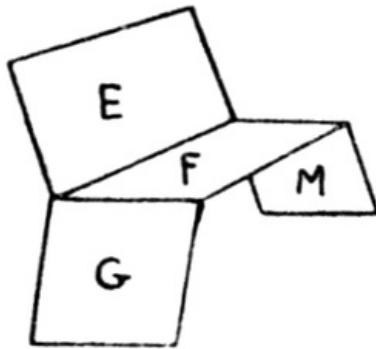

**FIG. 77**
**A Motor-car** (Fig. 77). The car consists of a match-box without the cover. The seats are of white paper. The following them measure and cut a piece of paper, A B C D, that will just cover the box from side to side, making bends *a c* and *b d* where the edges of the box come. Fold paper into four as in Fig. 78. Cut along *e f*, and cut off the shaded portions and fold as in Fig. 79. Gum the parts G and M to the side of the box.